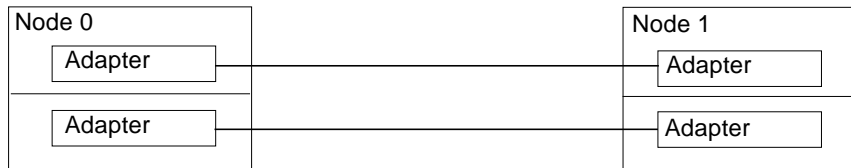

FIGURE 3-1 Typical Two-Node Sun Cluster Interconnect
- A cluster with only two nodes can use a point-to-point connection, requiring no cluster transport junctions. You need to use a point-to-point (crossover) Ethernet cable if you are connecting 100BaseT or TPE ports of a node directly to ports on another node (no switch). Gigabit Ethernet uses the standard fiber cable for both point-to-point and switch configurations. See FIGURE 3-1.